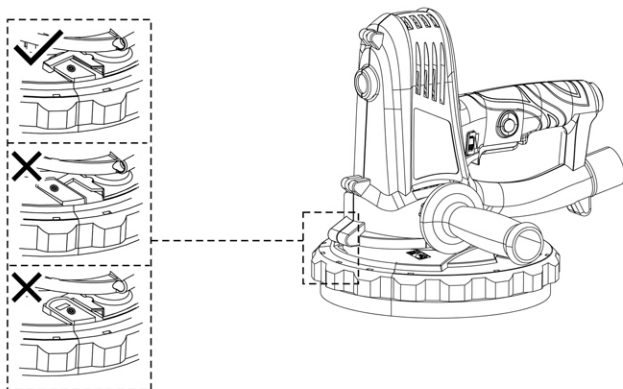

Fig. 10
- > After operation, refit the segment (10b) onto the guard (10). Ensure the unlock button (10c) is properly engaged in position (Fig. 10).